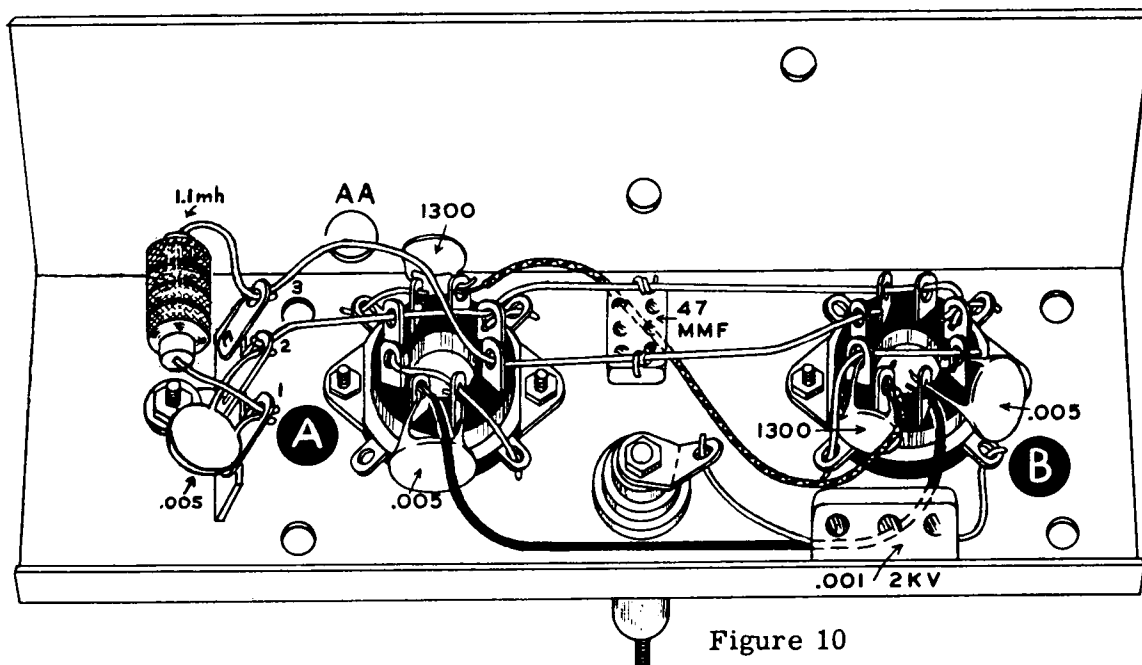

Figure 10
- () Identify the 6146 sub-chassis from Figure 10.
- () Mount two ceramic octal saddle-type sockets on the sub-chassis with the keyways facing away from each other. Use 1/4" 6-32 screws, lockwashers and nuts. See Figure 10.
- () Mount a feed-through insulator in the 5/16" hole. Arrange the stud in the insulator so most of it projects through the top. Leave only enough of the stud at the bottom of the insulator to hold a solder lug and two nuts. See Figure 10 and position the insulator body and solder lug as shown.
- () Connect a .005 μ fd disc ceramic capacitor from pin 6 (NS) to pin 7 (NS) of socket A.
- () Connect a .005 μ fd disc ceramic capacitor from pin 1 (NS) to pin 2 (NS) of socket B. Position the capacitor to clear the adjacent ground lug.
- () Connect a 1300 μ mf disc ceramic capacitor from pin 2 (NS) to pin 3 (NS) of socket A.
- () Connect a 1300 μ mf disc ceramic capacitor from pin 3 (NS) to pin 4 (NS) of socket B.
- () Connect a .005 μ fd disc ceramic capacitor from lug 1 (NS) to lug 2 (NS) of the terminal strip.
- () Connect an orange lead from pin 3 of socket A (NS) to pin 3 of socket B (NS). Run the lead close to the chassis.
- () Connect a black lead from pin 7 of socket A (NS) to pin 2 of socket B (S). Run this lead close to the chassis also.
- () Run a heavy bare wire through the following terminals in order (see Figure 10): lug 2 of the strip, pins 1 and 4 of socket A and pins 6, 7 and 8 of socket B. Solder lug 2 of the terminal strip and pins 6 and 7 of socket B.
- () Connect a heavy bare wire from pin 8 of socket B (S) to the adjacent ground lug (S).
- () Connect a heavy bare wire from pin 4 (S) to the adjacent ground lug (S) on socket A.
- () Connect a heavy bare wire from pin 2 (S) to the adjacent ground lug (S) on socket A.
- () Refer to Figure 10 and connect a $47\ \mu\mu\text{f}$ mica capacitor (yellow-violet-black) between the two heavy wires as shown. Keep the leads short and solder both connections.
- () Connect a $.001\ \mu\text{fd}$ 2000 volt mica capacitor (brown-black-red) from the #1 ground lug on socket B (S) to the feedthrough insulator solder lug (NS).
- () On the terminal strip, connect a 1.1 mh RF choke from lug 1 (NS) to lug 3 (NS).
- () At point 9 of the cable (within the 6146 compartment) connect the red lead to the solder lug on the feed-through insulator (NS).
- () Connect the orange lead at this point to pin 3 of socket B (S). Refer to Figure 10 for socket identification.
- () Connect the twisted pair of black wires coming through 3/4" grommet D to pin 7 of socket A (S).
- () Connect the violet lead coming through grommet D to lug 1 of the terminal strip (S).
- () Connect a short bare wire from lug 3 of the terminal strip (S) to the adjacent solder lug on the feed-through insulator (S).
- () Using a 5 1/4" length of #14 bare wire, slip a 4" length of sleeving over the wire and pass it through hole AA in the side of the 6146 sub-chassis (see Figure 10). Connect the end of the wire to pin 1 of socket A (S) and connect the other end to the ground lug on the silver strap at the tuning capacitor mounting screw (NS). Run the wire down close against the chassis by bending it at right angles where it comes through hole AA.